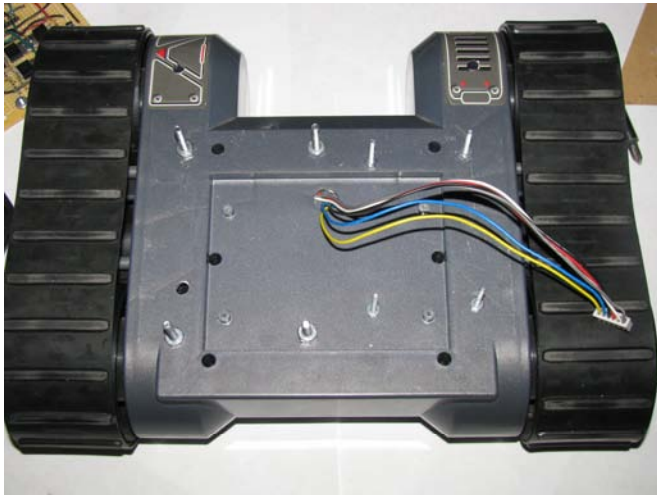

Figure 5-12. The frame with mounting bolts installed
2. *Mount the motor-controller and Arduino:* used a marker to mark the mounting holes onto the frame, and a drill to make the holes. After drilling the holes, secure four bolts to hold the motor-controller and three or four bolts to hold the Arduino (three holes for a regular Arduino and four holes for the Arduino Mega). Secure a nut to each bolt with the bolts pointing upward through the frame. I had to use #8 bolts for the motor-controller board and #4 bolts for the Arduino (see Figure 5-12).